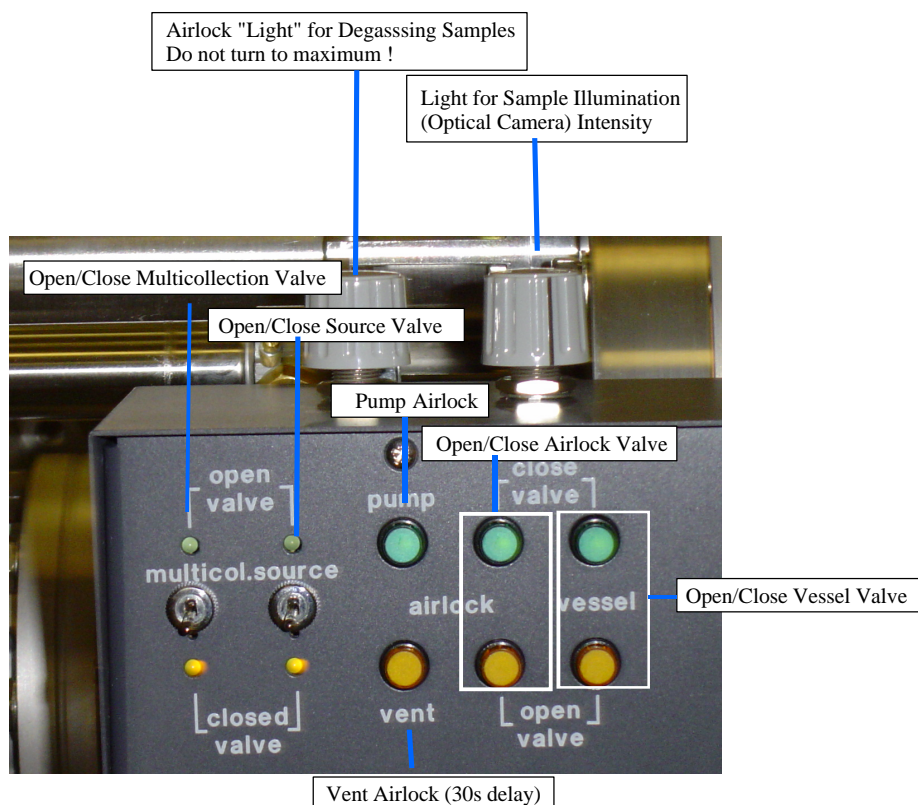

Figure 5: The airlock control pad.
- ❑ Vent the airlock by pressing the 'Airlock Vent' button on the airlock control pad. There is a 30 s delay, during which the venting process can be aborted by pressing 'Pump'. Wait until the light stops blinking and the 'Vent' light stays on (see Figure 5).
- ❑ Evacuate the airlock by pressing the 'Airlock Pump' button on the airlock control pad. There is a 30 s delay. Wait until the light stops blinking and the 'Pump' light stays on (see Figure 5).
- ☐ Once the pressure in the airlock is below  $5 \times 10^{-7}$  torr, open the airlock valve by pressing 'Airlock Open Valve' on the airlock control pad (see Figure 5). Wait until the 'open' light stays on.
- ☐ Close the airlock valve by pressing 'Airlock Close Valve' on the airlock control pad (see Figure 5). Wait until the 'close' light stays on.
- ☐ Open the vessel valve by pressing 'Vessel Open Valve' on the airlock control pad (see Figure 5). Wait until the 'open' light stays on.
- ☐ Close the vessel valve by pressing 'Vessel Close Valve' on the airlock control pad (see Figure 5). Wait until the 'close' light stays on.